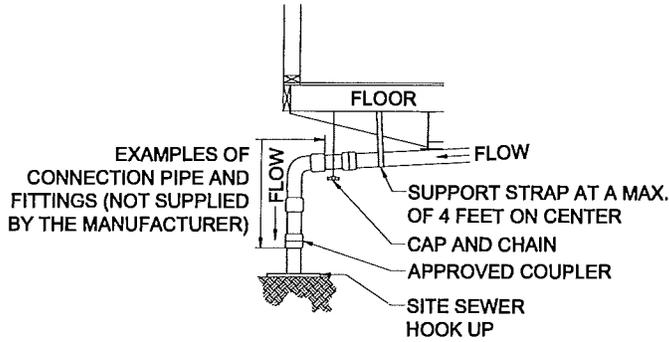

Figure 49. DWV connection to sewer/septic
4. **Connect to outlet.** Connect the main drain line to the site sewer/septic hook-up, using an approved elastomer coupling (Figure 49).